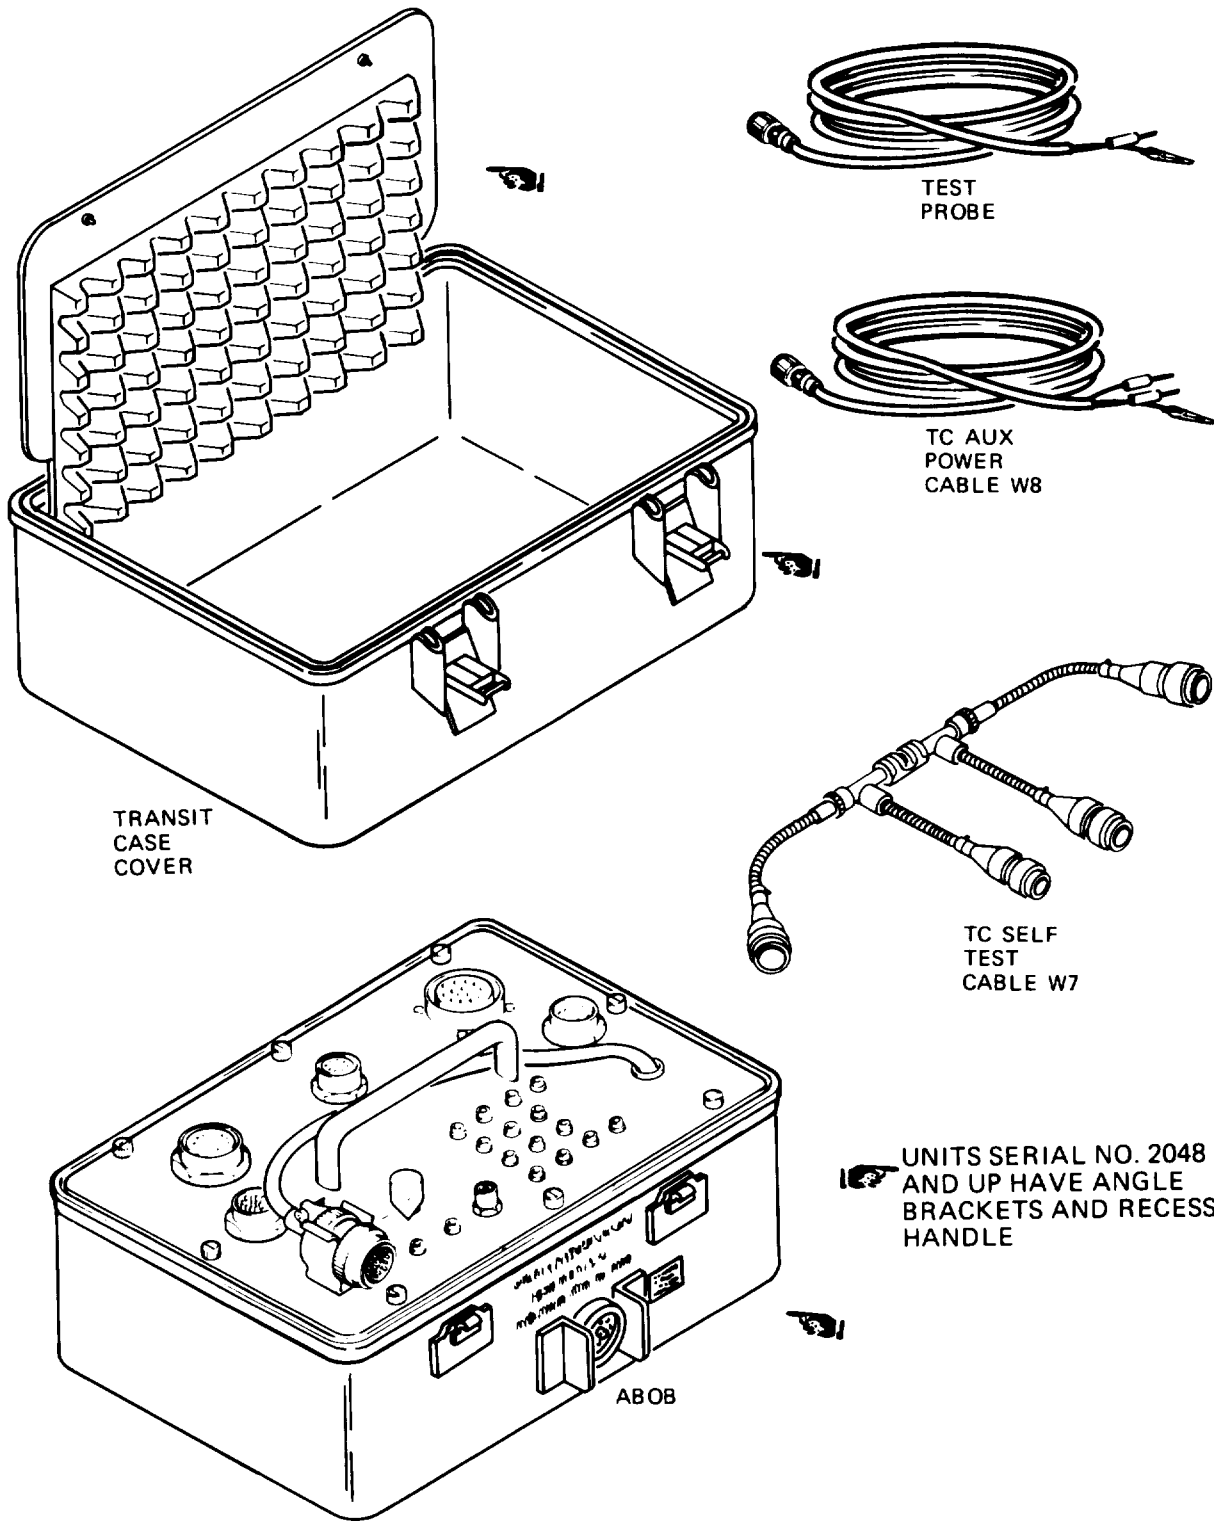

Figure 1-8. Alignment Breakout Box.
e. *Alignment Breakout Box (ABOB)*. The ABOB (figure 1-8) facilitates maintenance of the TSSTS components by providing test points that allow the operator to measure voltage and signal levels on a non-interference basis. It is also used with the test controller to check and fault isolate cables of the TSSTS. The self test cable provided with the ABOB connects between the inputs and outputs of the TC to allow an extended diagnostic self test to be performed. The auxiliary power cable provided with the ABOB is used to supply power to the TC when the TSSTS is being tested or repaired in the maintenance shop.